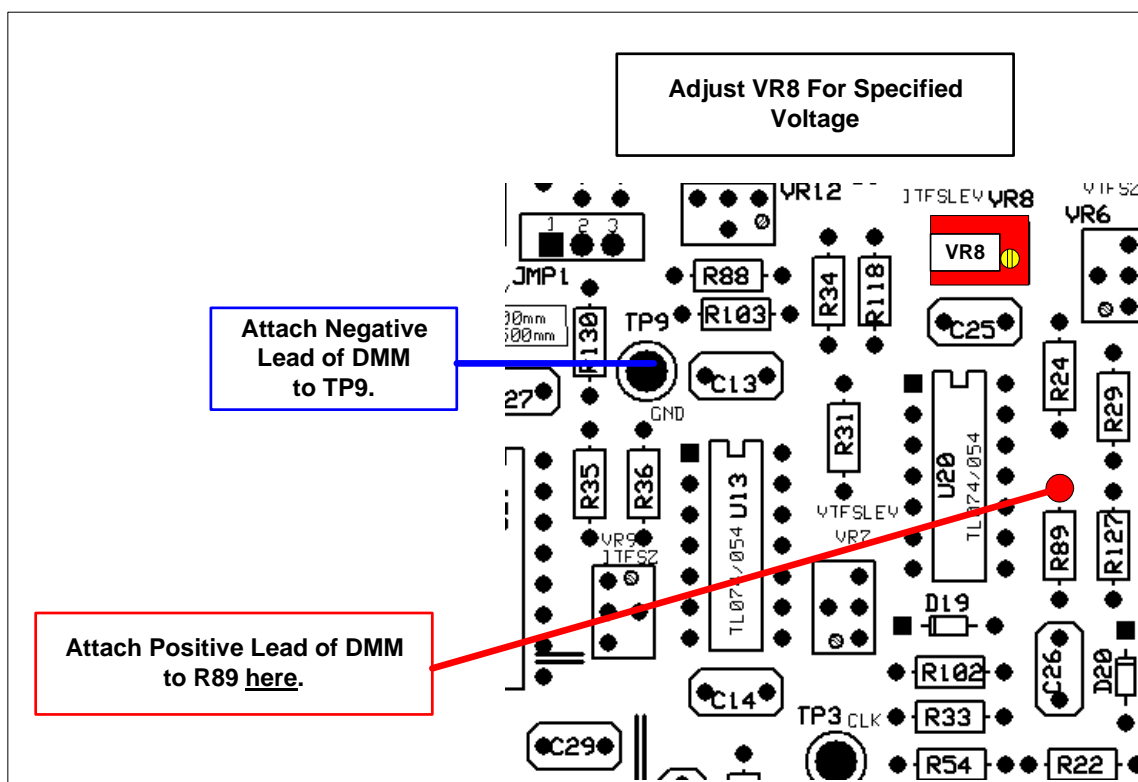

Figure 9-14: Initial Current TFS Range Calibration
6. Connect the positive lead of the DMM to the end of R89 indicated in **Figure 9-14** and leave the negative lead of the DMM attached to TP9.